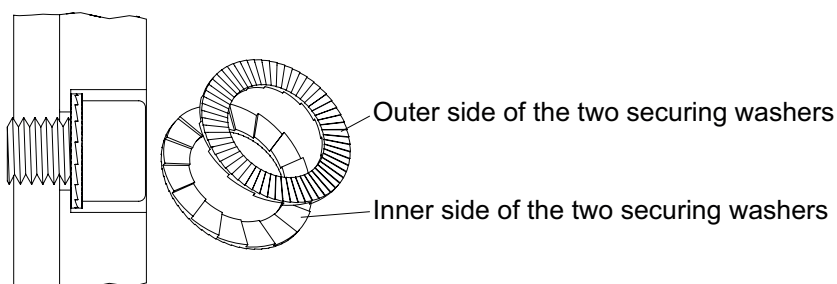

Figure 18 Correct fitting position of the Nord-Lock® securing washers
ATTENTION Take care that the orientation of the lock washers is correct (Figure 18 Correct fitting position of the securing washers) and that the prescribed tightening torque is used!
2. Push on propeller (6).
3. Fit O-ring (5).
4. Insert propeller washer (2).
5. Fit O-ring (4).
6. Fit lock washers (3) taking care that orientation is correct (see Figure 18 Correct fitting position of the Nord-Lock® securing washers).
7. Tighten socket head screw (1) with torque of 56 Nm.